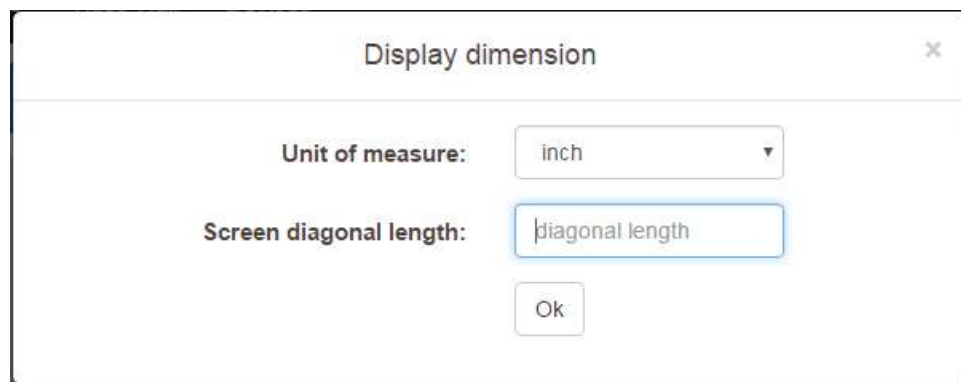

Figure 255: Video Wall Tab – Newly Created 2x2 Video Wall
- b. Once dragged into the display pane, the user is asked for display dimensions (Figure 255).
Note that **Unit**, **screen width**, and **screen height** values are derived from the information provided by the user when first creating the video wall (Figure 255). Also, **Bezel top**, **bezel bottom**, **bezel left**, and **bezel right** are all set to 0.1 inch by default, but these values may be changed.